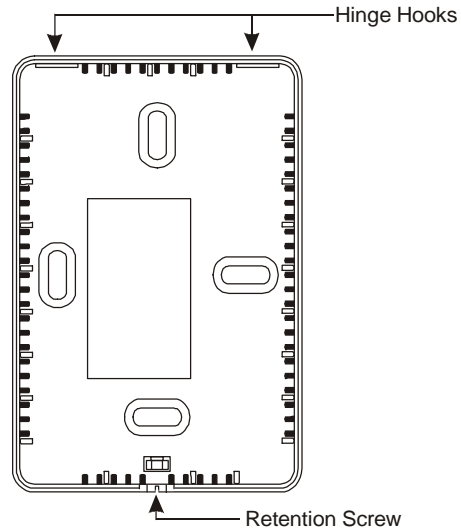

Figure 3: T6000 Series Base Mounting Dimensions
2. fasten the base to the wallbox using the appropriate two holes, as shown in Figure 3 and two No. M3 x 20 screws.